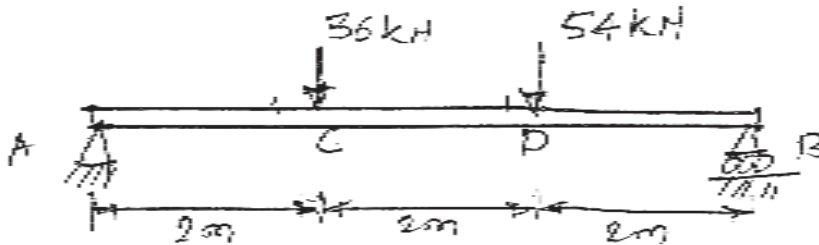

Fig. 04
- b) A simply supported beam as shown in Fig. 04. Determine the slope at A and deflection under the heavier load. Take $E = 200 \text{ GPa}$ and $I = 450 \times 10^6 \text{ mm}^4$. 8